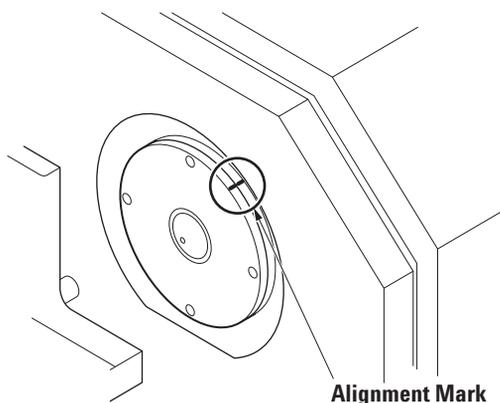

Figure 69 Sampling Cone and Interface Alignment Mark
- 7 Using the supplied sampling cone removal tool, tighten to the position indicated by the mark (Figure 69).